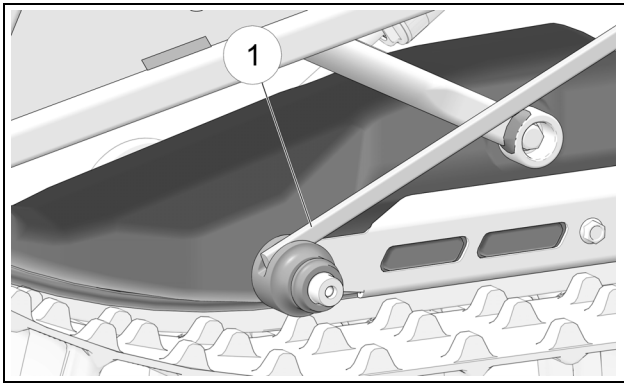

Figure 15
- Using an appropriate tool, lift the long end of the spring (1) out of its groove to release the tension. See Figure 15.